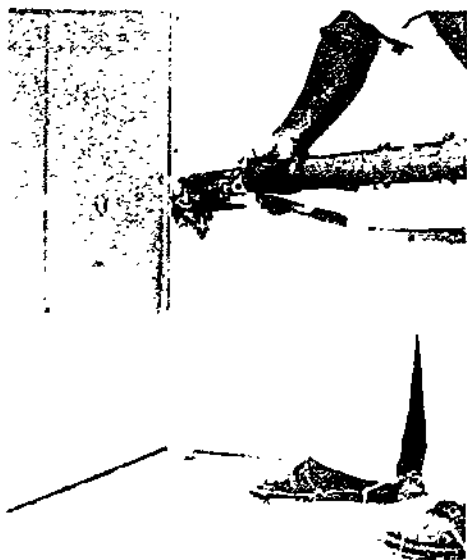

Figure 4-15
3. For upper butts pre-run approximately 15 cm of tape then holding the tape firm with the hand on the collar lift the 15 cm of tape off the joint. For flats and horizontal angles pre-run approximately 8 cm. And for lower butts and vertical angles pre-run enough tape (starting at a comfortable height usually about 60 cm from the floor) so that when you lift the tape from the wall it will reach the bottom of the joint without you having to bend your back (Figure 4-15). The object here is to put the least strain possible on the back.